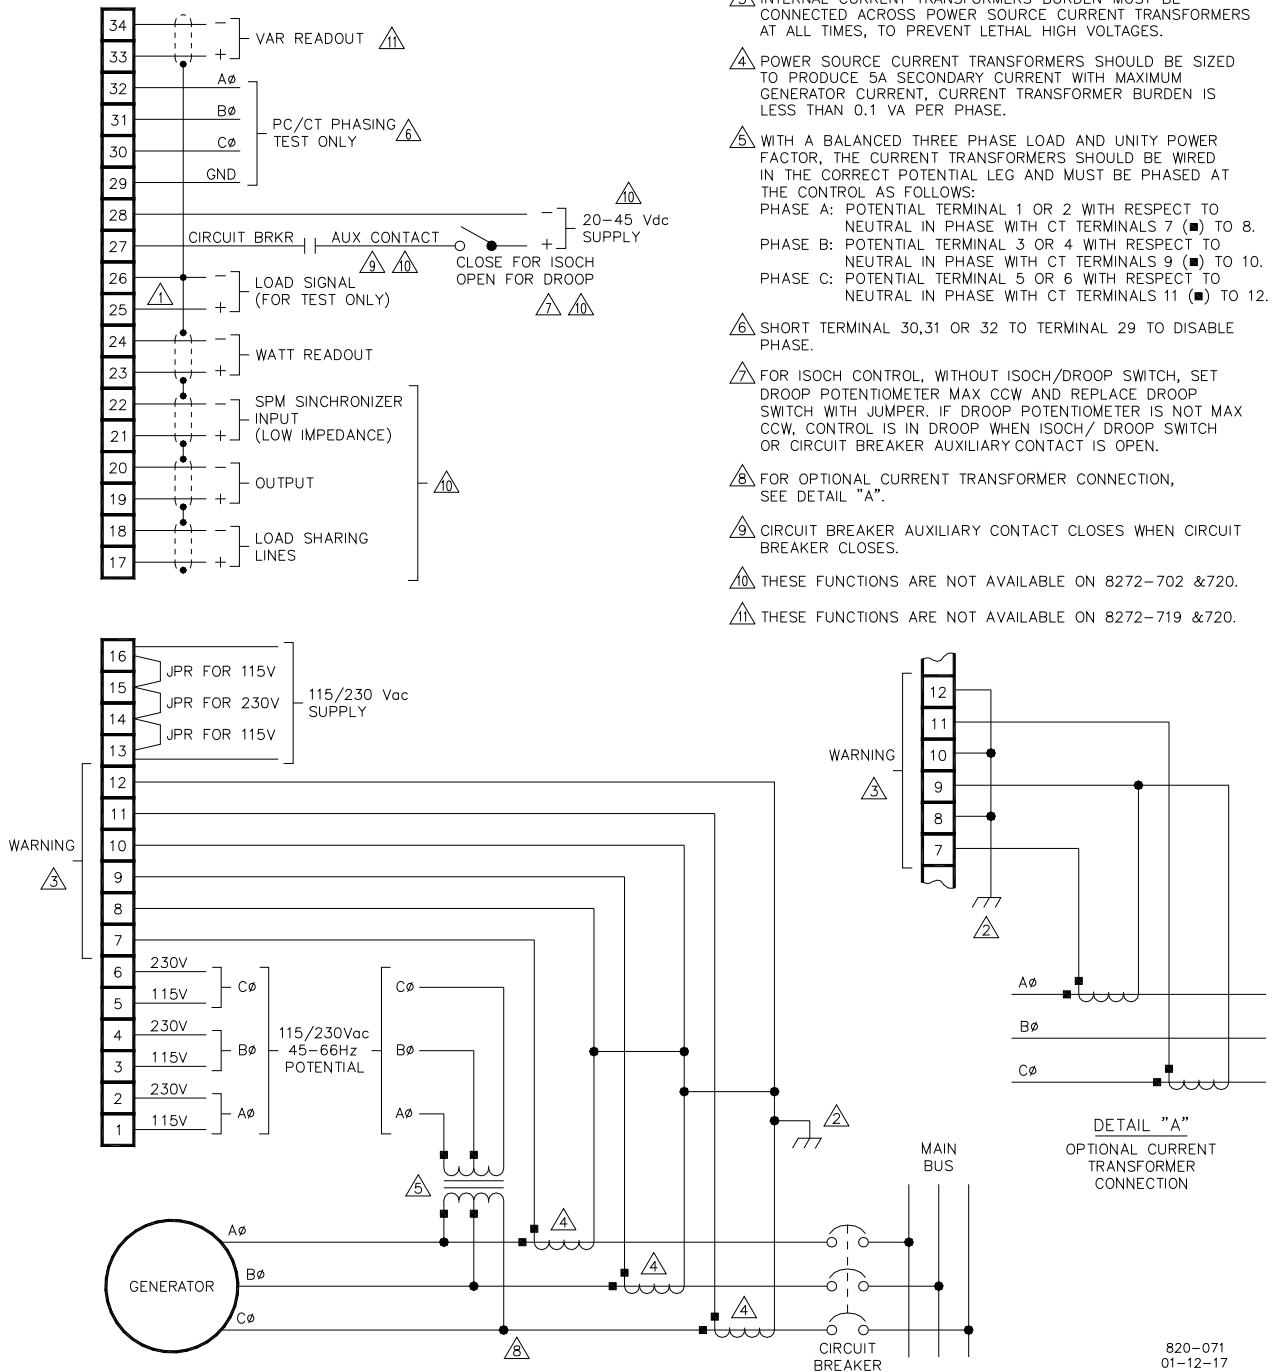

Figure 3-2. Plant Wiring Diagram for the Real and Reactive Power Sensor
Connect external wiring to the real and reactive power sensor as shown in Figure 3-2. When making these wiring connects, observe the following wiring recommendations:
- Make sure that all wires shown in Figure 3-2 as shielded, are shielded.
Before continuing with this test, double check all wiring and jumpers on the unit against the plant wiring diagram (Figure 3-2).